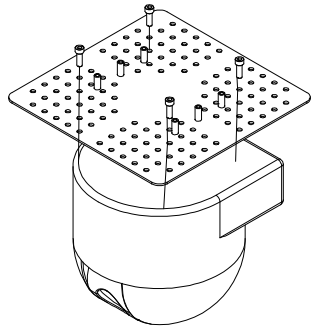

Figure 1
1. Lower the telescopic section of the lift to a height suitable for the installer to install the camera, as shown in Figure 1. Fix the camera on the mounting plate with screws (Note: Make sure that the screws are firmly tightened, and be careful not to accidentally drop the camera!)